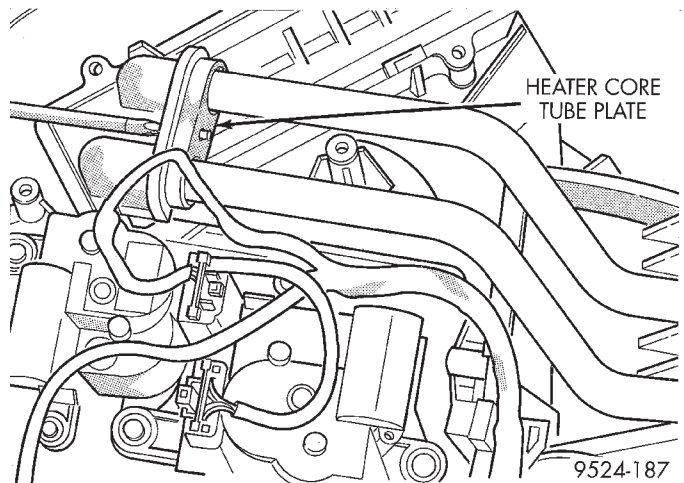

Fig. 57 Heater Core Tube Plate
(3) Remove heater core tube plate (Fig. 57) and (Fig. 58).